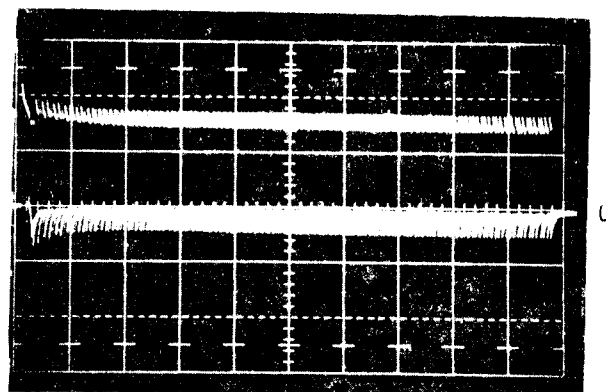

FIG. 3
- 1.1 If the waveshane is not similar to figure 1 or figure 2, a missing pulse is immediately apparent and indicates the corresponding thyristor is not firing. Check for open fuses or an open gate circuit. A typical pulse train is seen in figure 3. This trace is obtained when a scope is connected across the gate of a thyristor at the pulse transformer and RC board (located on the TPM) with "G" (gate) positive with respect to "K" (cathode).